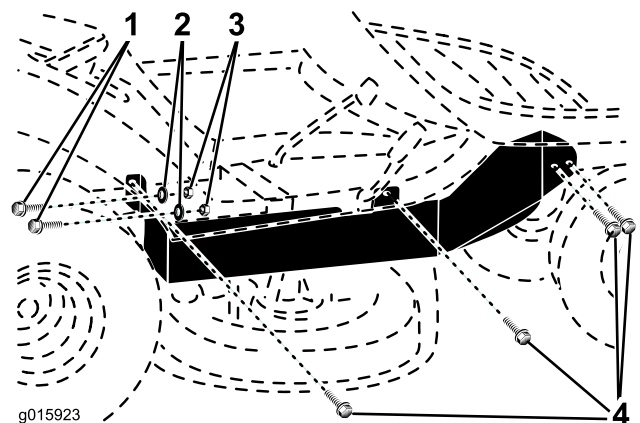
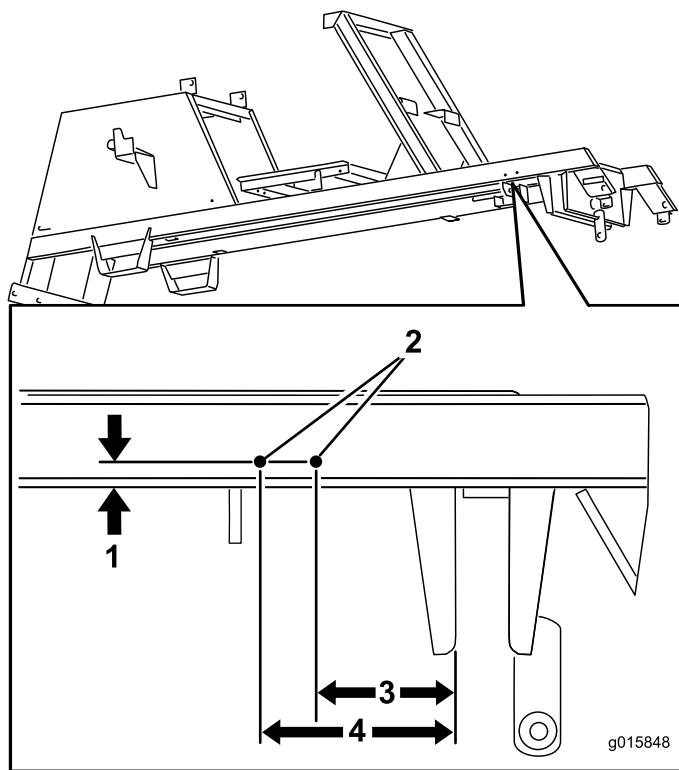
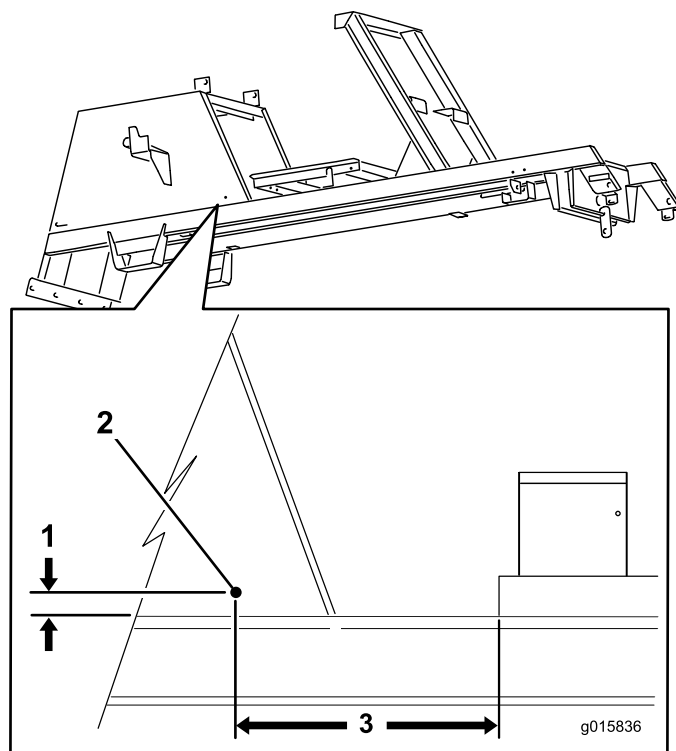
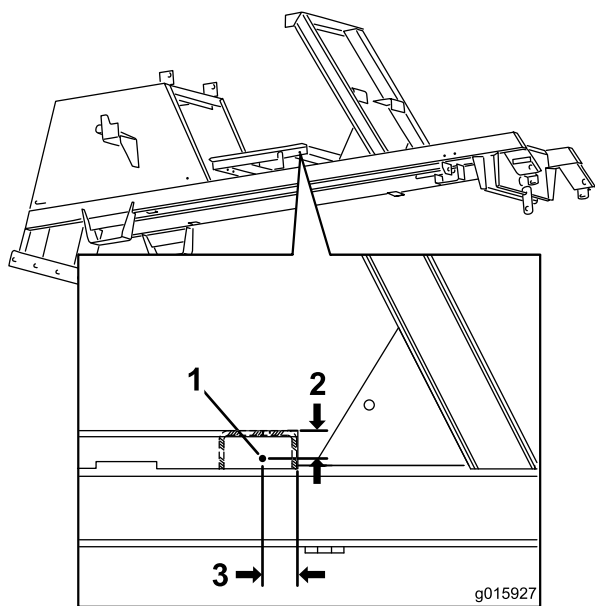

Figure 6
Figure 7
Figure 9
Figure 8
1. On the right side of the machine, drill 4 holes with a diameter of 3.4 mm in the locations shown in Figure 6, Figure 7, Figure 8 and Figure 9. Install the right belt guard using the fasteners listed in Figure 6.